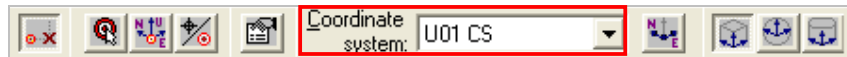

Figure 3: The Active Coordinate System Selected
3. Change the active coordinate system to **U01 CS** in the **coordinate system** drop-down list of the **PinPoint** ribbon, as shown in Figure 3.